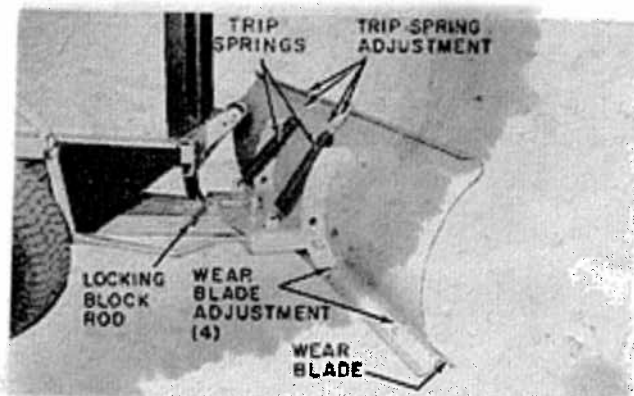

Figure 2
1. Engage the lower bar on the mounting bracket with the open end of each clevis on the blade "A" frame. Secure with L-shaped clevis pins and hair-pin cotters. Note in Fig. 2 that the bracket pins fit in the lower holes of the blade mounting flanges.
of the cable clamp and slowly release the locking block rod until the sheath of the cable engages the cable clamp. See Fig. 2 and 3.
Trip Springs - For normal adjustment of the trip springs, allow 3 1/2 in. between each spring and the top of its adjusting bolt as shown in Figure 2. This spacing may be varied to accommodate differing plow conditions. For example, if it is necessary to plow snow from a flagstone patio or walk, the trip springs should be set lightly (maximum spacing) to prevent dislodging the flagstones. Conversely, a minimum spacing would prevent the blade from tripping easily during earthmoving. The trip spring tension (and spacing) may be adjusted by holding the head of the spring retaining bolt and rotating the hexagon barrel so as to draw the spring up or allow it to relax. Adjust both springs equally.